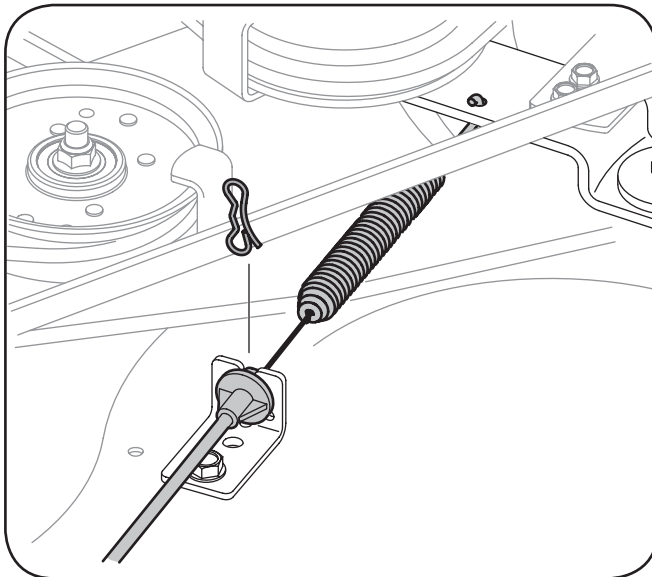

Figure 7-6
9. Carefully remove the PTO cable from the rear of the cutting deck by removing the hair pin clip which secures it. Remove the spring from the deck idler bracket. See Fig. 7-6